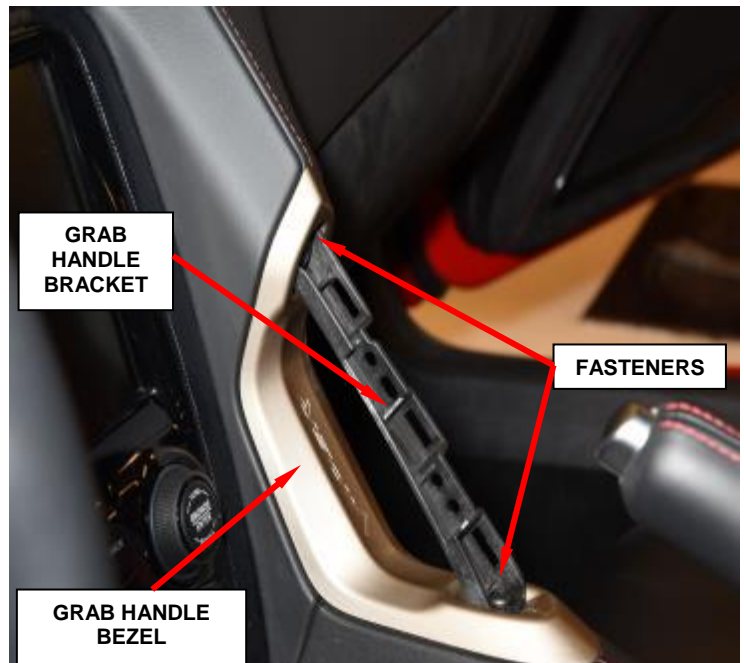

Figure 6 – Grab Handle Bezel
- d. Remove the two fasteners from the grab handle bracket (Figure 6).
- e. Use C-4755 or equivalent, to release the clips on the grab handle bezel and remove from the vehicle (Figure 6).